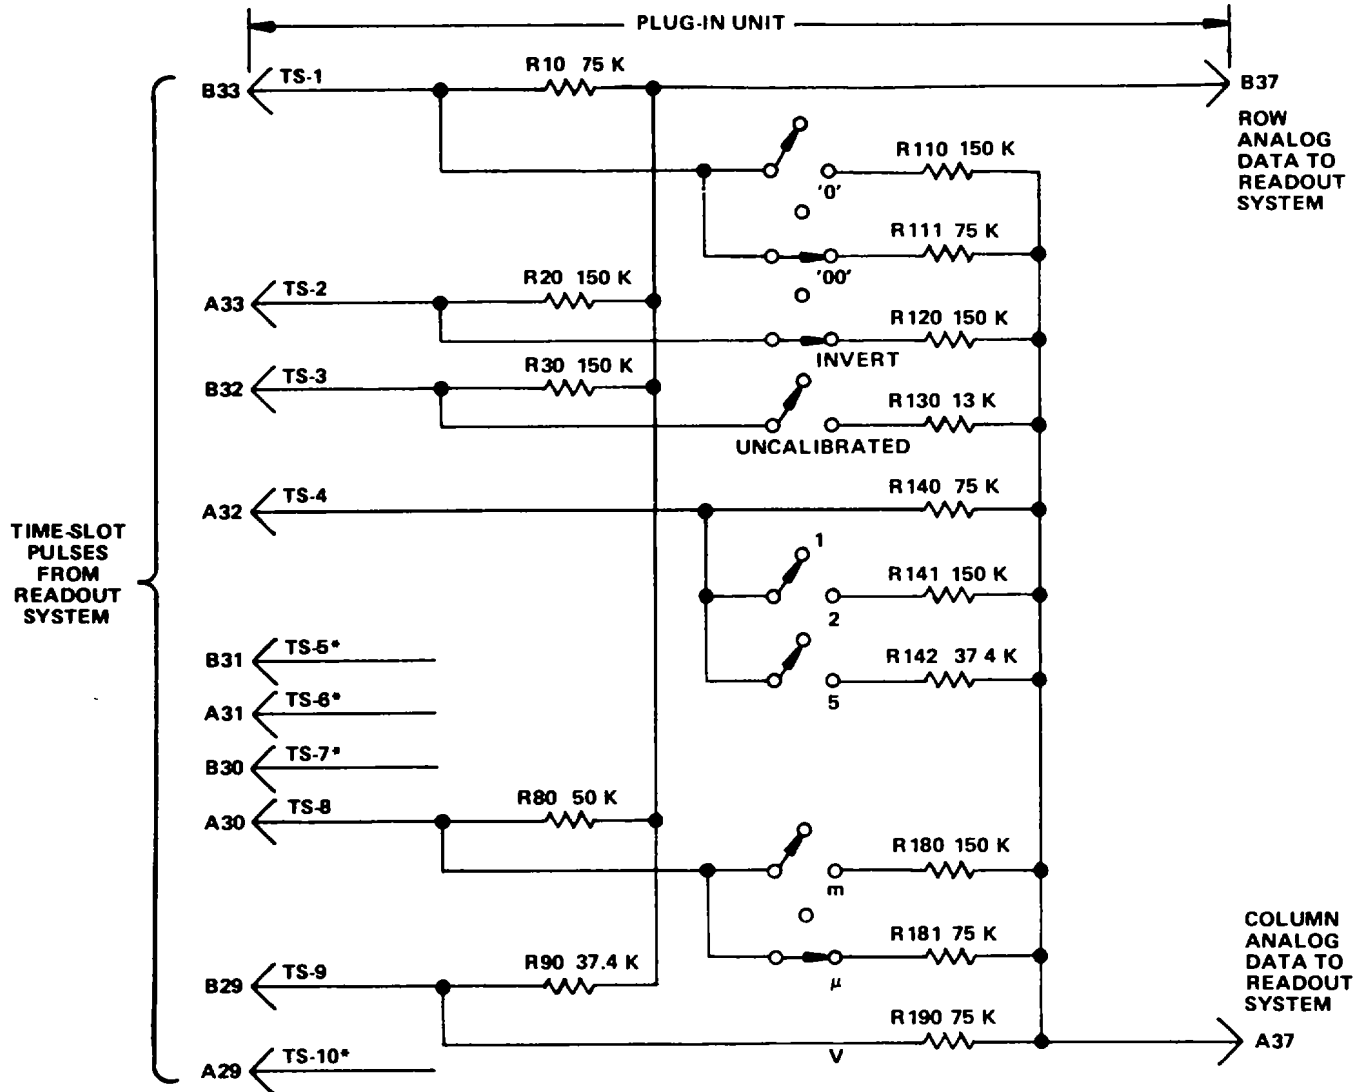

Figure 3-32. Typical encoding scheme for voltage-sensing amplifier plug-in unit Coding shown for deflection factor of 100 microvolts.
Data is conveyed from the plug-in units to the Readout System in the form of an analog (current level) code. The characters that can be selected by the encoded data are shown on the Character Selection Matrix (see Figure 3-25). Each character requires two currents to define it; these currents are identified as the column current and the row current, corresponding to the column and row of the matrix. The column and row data is encoded by programming the plug-in units. Figure 3-32 shows a typical encoding scheme using resistors for a voltage-sensing amplifier plug-in unit. Notice that the 10 time-slot (TS) pulses produced by the Time-Slot Counter stage are connected to the plug-in unit. However, time-slots 5, 6, 7, and 10 are not used by the plug-in unit to encode data when using the Standard Readout Format. (See Table 3-2 for Standard Readout Format.) The amplitude of the time-slot pulses is exactly -15 volts as determined by the Timer stage. Therefore, the resultant output current from the plug-in units can be accurately controlled by the programming resistors in the plug-in units.
For example, in Figure 3-32 resistors R10 through R90 control the row analog data, which is connected back to the Readout System. Figure 3-33A shows an idealized output current waveform of row analog data, which results from the time-slot pulses. Each of the row levels of current shown in these waveforms corresponds to 100 microamperes of current. The row numbers on the left-hand side of the waveform correspond to the rows in the Character Selection Matrix (see Figure 3-25). The row analog data is connected back to the Readout System via terminal B37 of the plug-in interface.
The column analog data is defined by resistors R110 through R190. The program resistors are connected to the time-slot lines by switch closures to encode the desired data. The data as encoded by the circuit shown in Figure 3-32 indicates a 100-microvolt sensitivity with the CRT display inverted and calibrated deflection factors. This results in the idealized output current waveforms shown in Figure 3-33B at the column analog data output, terminal A37 of the plug-in interface.
The column analog data encoded by most plug-in units can be modified by attenuator probes connected to the Input connectors of amplifier plug-in units. A special coding ring around the input connector of the plug-in unit senses the attenuation ratio of the probe (with readout-coded probes only). The probe contains a circuit which provides additional column current. For example, if a 10X attenuator probe is connected to a plug-in unit encoded for 100 microvolts as shown in Figure 3-32, an additional unit of current is added to the column analog data during time-slot 1. Since two units of current were encoded by R111 (see Figure 3-32), this additional current results in a total of three units of column analog current during this time-slot. Referring to the Character Selection Matrix, three units of column current, along with the two units of row current encoded by R 10, indicates that the prefix should be shifted one column to the left. Since this instruction occurs in the same time-slot that previously indicated that two zeros should be added to the display and only one instruction can be encoded during a time-slot, the zeros do not appear in the display. The CRT readout will now be changed to 1 mV (readout program produced by plug-in same as for previous example).
Finally, memory C is interrogated during time-slot 8 to obtain information on whether the prefix should be changed, or left at the value that was encoded. If data has been encoded that calls for a shift in prefix, a negative-going output level is produced at pin 7. This negative level subtracts one unit of column current from the data at the input to the Column Decoder. Notice on the Character Selection Matrix of Fig.3-25 that when row 4 is programmed, a reduction of one column results in a one-column shift of the prefix. For example, with the 100 /V program shown in Fig.3-32, if the data received from the plug-in called for a shift in prefix, the crt readout would be changed to 1 mV (zeros deleted by program, see Encoding the Data).